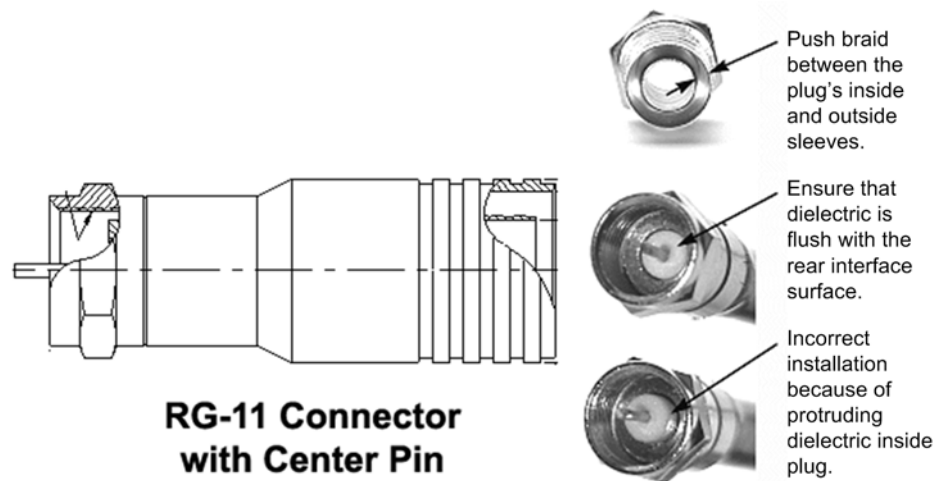

Figure 13. Attaching the RG-11 Connector
6. (If using a coax stripper, skip this step.) Being careful not to cut into the copper of the center conductor, remove the foil and cut the white color inner dielectric insulation to the length shown under Length B in Table 12. Remove any residue (as shown in Figure 13 on page 30).
Note: *The white color inner dielectric insulation should be flush with the inner rear surface of the connector. Refer to the picture on the right in Figure 13 on page 30 for an RG-11 termination.*
9. Since the RG-11 connector has a built-in center pin, ensure that the coax center pin makes contact to the internal seizing pin of the connector, as shown in Figure 13.